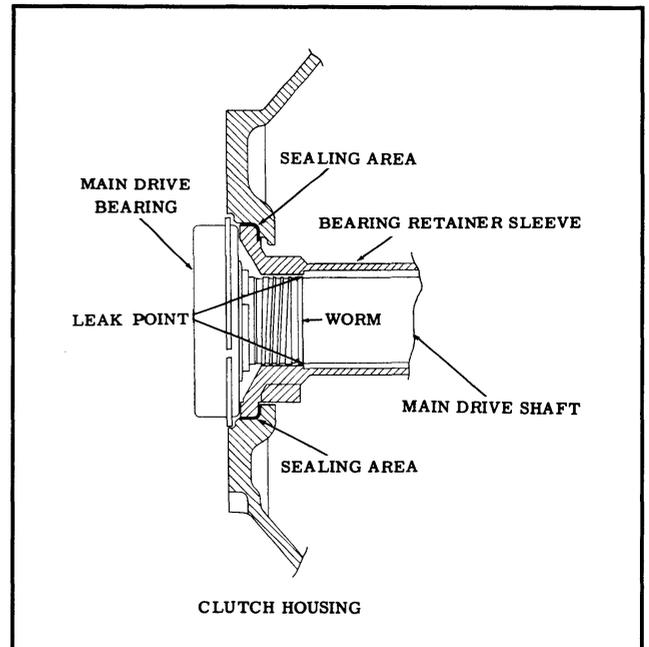

Fig. 11-32 Sleeve Installation
5. If excessive clearance is found, install a new bearing retainer sleeve, and seal the area between the sleeve and clutch housing as shown in Fig. 11-32.